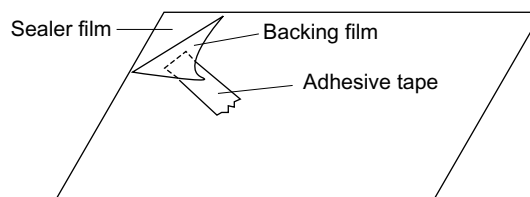

Figure C-7. Sealer film
1. Put the adhesive tape on the backing film of the sealer film as shown in Fig. C-7